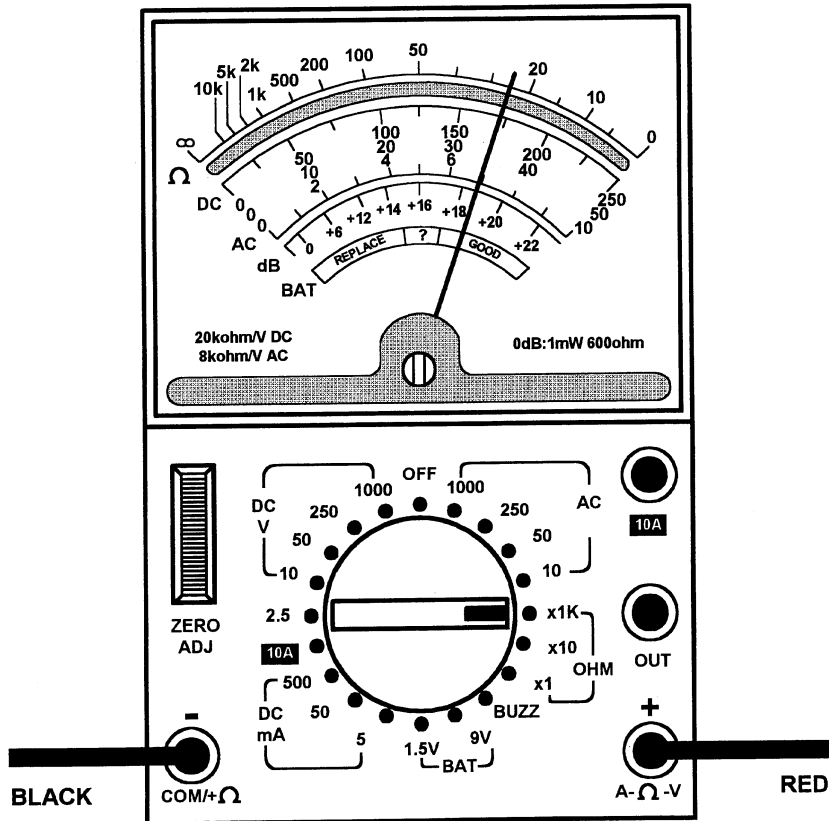

Figure 14.34 See Problem 14.6
- 14.6 Determine the reading on the multi-range meter shown in Fig. 14.34.